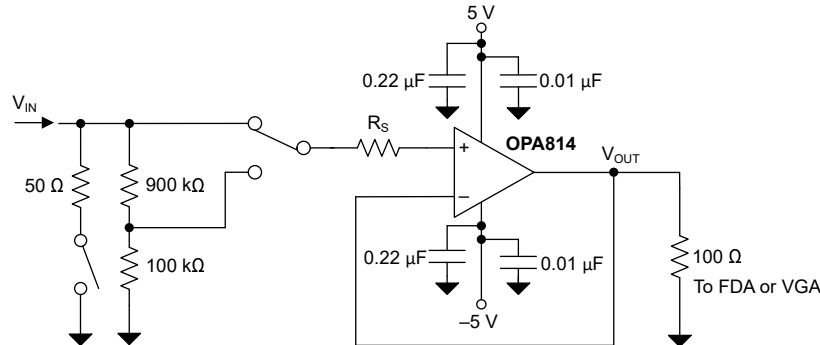

図 8-4. High-Input-Impedance, 180-MHz, Digitizer Front-End Amplifier
- Optimizing Overshoot:** The OPA814 features an internal slew-boost circuit to deliver fast rise-time in applications that require high slew rates, such as when configured as a transimpedance amplifier. For applications where overshoot must be limited, limit the input slew rates by introducing a series resistance ( $R_S$ ); see also Figure 8-4. Resistor  $R_S$  forms a low-pass filter with an input capacitance of approximately 2.5 pF at the noninverting pin of the OPA814, thus limiting the input slew rate to the amplifier. Figure 8-5 shows how limiting the input slew rate to the amplifier results in good overshoot performance. Figure 8-6 shows how this configuration achieves a small-signal and large-signal bandwidth of 180 MHz.